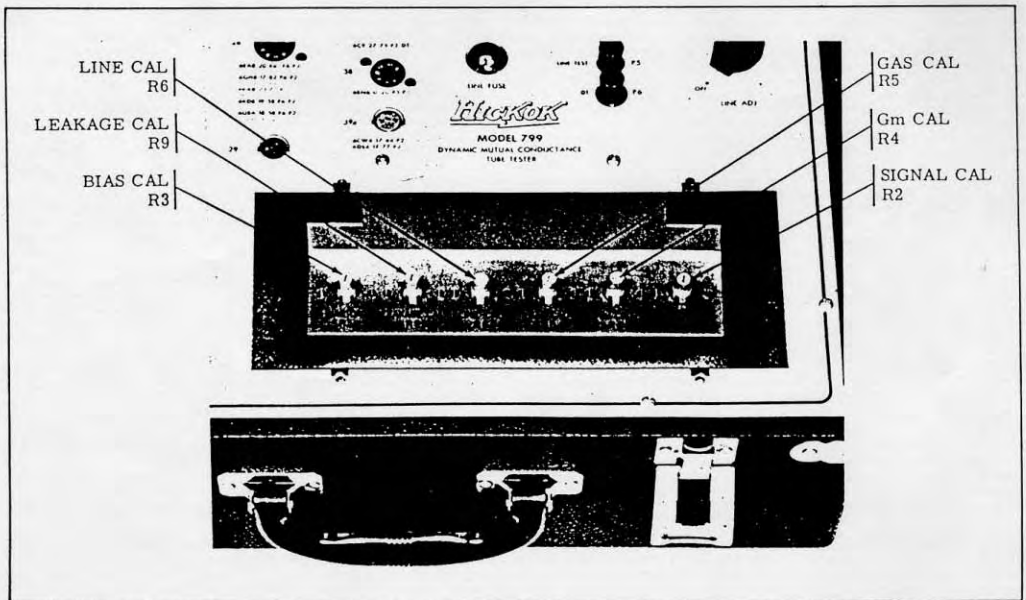

Figure 9. Calibration Controls
All calibration controls are located beneath the cover plate on the panel of the unit. It is only necessary to remove four screws. It is not necessary to remove the instrument from its case. See figure 9.
- a. Connect the AC VTVM between plate (P) and cathode (K) jacks on the front panel.
- f. Connect the DC VTVM between grid (G) and cathode (K) jacks on the panel. Plus (+) to cathode (K), minus (-) to grid (G).
- h. Adjust BIAS CAL R3 (figure 9) for a 50 volt reading on the DC VTVM.
- i. Adjust LINE CAL R6 (figure 9) for a half-scale reading (LINE TEST) mark on the meter of Model 799.
- e. Connect the DC microammeter between the grid (G) and cathode (K) jacks on the panel with the 1 meg, $\pm 5\%$, 1/2 watt resistor in series with the DC microammeter. Press and hold down push-button P1 and adjust BIAS control on front panel of Model 799 for a 10 microamperes reading on the DC microammeter.
- f. Adjust GAS CAL - R5 (figure 9) for a full scale reading on the Model 799 meter. If full scale reading cannot be obtained, set for highest possible reading. This highest possible reading (but under 1000 on the meter scale) is satisfactory. A slight variation at this point is not critical.
- b. Connect a jumper between the grid (G) and the cathode (K) jacks on the front panel.
- c. Adjust LEAKAGE CAL - R9 (figure 9) for a full scale reading on the Model 799 meter.
- c. Connect the AC VTVM between the grid (G) and the cathode (K) jacks on the front panel. Meter ground to cathode jack (K).
- d. Press and hold down push-button P1 and adjust SIG CAL - R2 (figure 9) for a reading of 2.5 volts (RMS) on the AC VTVM.
- b. Connect a 1K, $\pm 5\%$, 10 watt resistor between the plate (P) and the cathode (K) jacks on the front panel.
- c. Press and hold down push-button P2 and adjust Gm CAL - R4 (figure 9) for a 0 (zero) meter reading on the Model 799 meter.